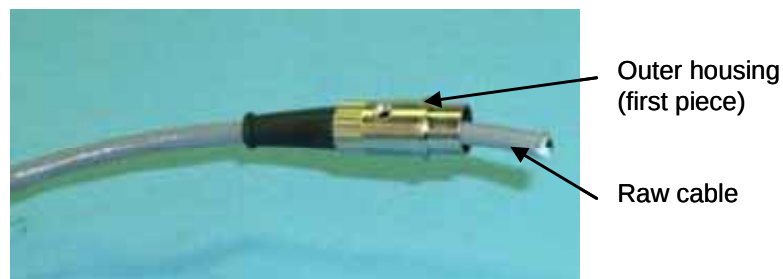

Figure 125. Raw cable and DIN plug housing.
9. Pay attention to the DIN (Deutsches Institut für Normung eV) plug connector at the other end of the geophone cable (figure 125). Attach the DIN plug housing to the end of the cable.